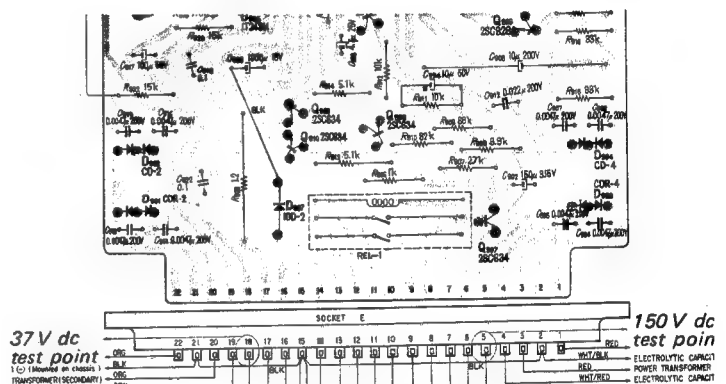

Fig. 3-2. Dc voltmeter connections
1. Remove the top cover as described in Procedure 2-3 and connect the dc voltmeter to the test points as shown in Fig. 3-2.